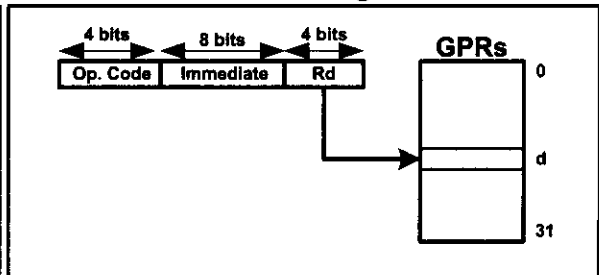

Figure 6-2b. Single-Register (with immediate)
3. Some AVRs have more than 64 I/O registers. The extra I/O registers are located above the data memory address \$5F. The data memory allocated to the extra I/O registers is called *extended I/O memory*. As shown in Figure 6-2b, in the I/O direct addressing mode, the address field is a 6-bit address and can take values from \$00-\$3F, which is from 00 to 63 in decimal. So, it can address only the standard I/O register memory, and it cannot be used for addressing the extended I/O memory. For example, the following instruction causes an error, since the I/O address must be between 0 and \$3F: